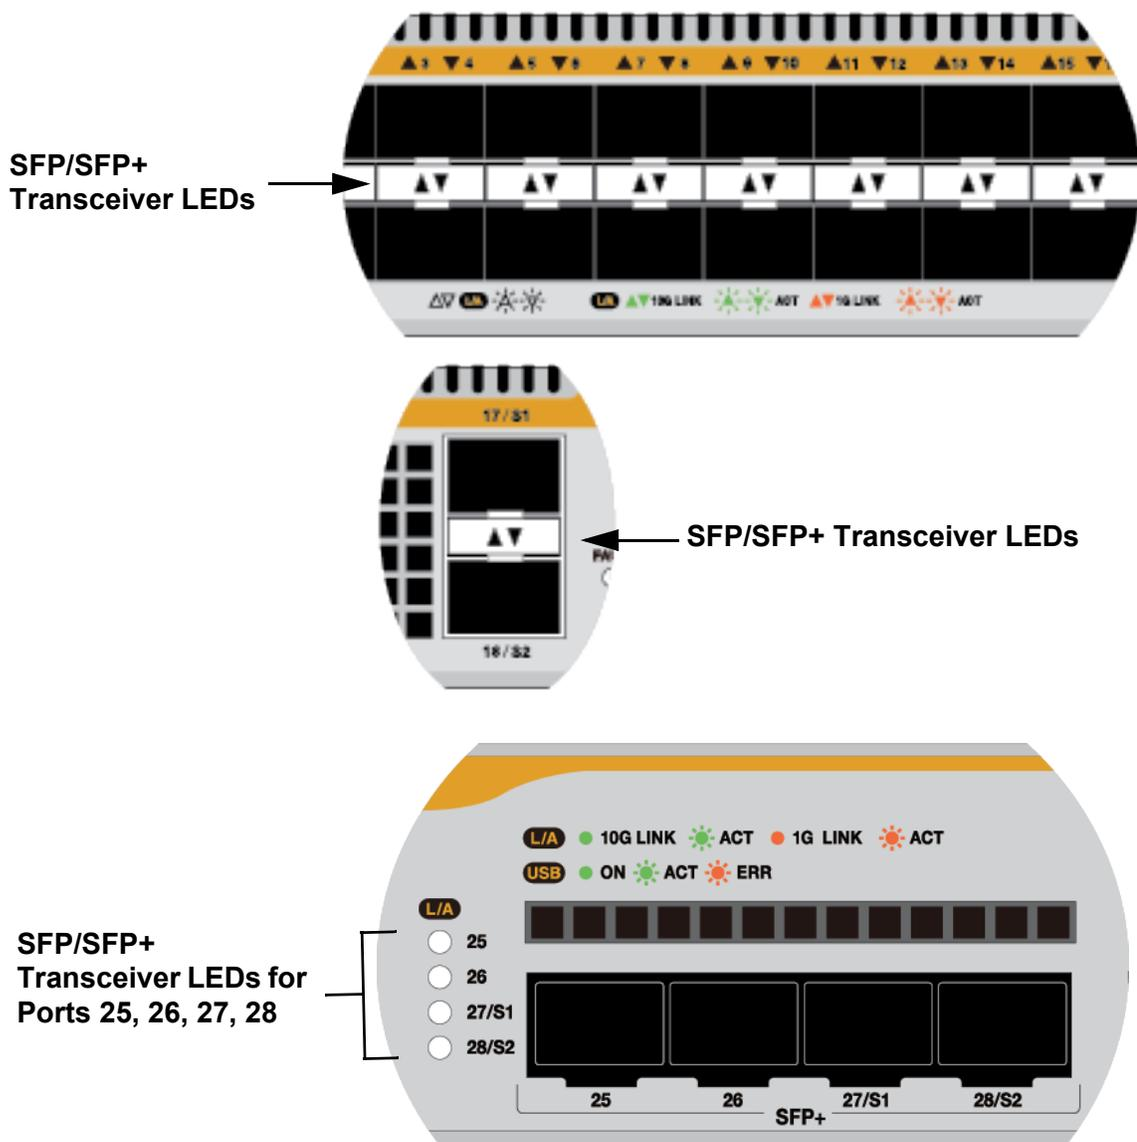

Figure 12. LEDs for SFP/SFP+ Transceiver Slots
**LEDs** The slots for the SFP/SFP+ transceivers have one link and activity status LED each. Refer to Figure 12.